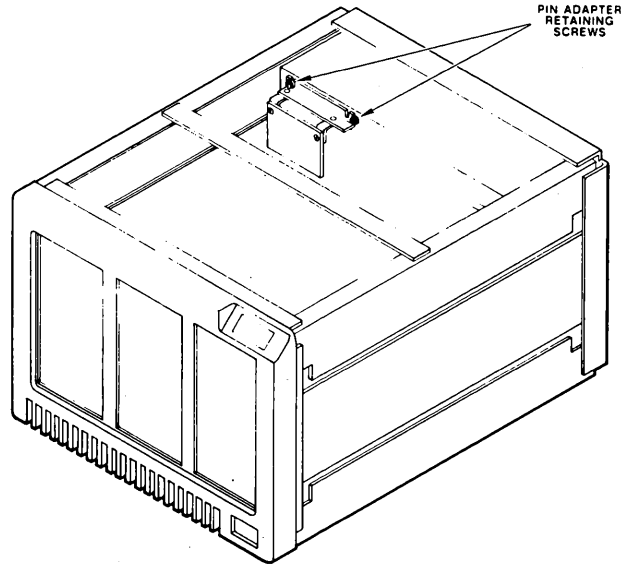

Figure 4-9. Pin Adapter Retaining Screw Locations
10. Loosen two screws securing the pin adapter board extension bracket to the power supply. Ease the pin adapter board out of the way. (Refer to Figure 4-9.)